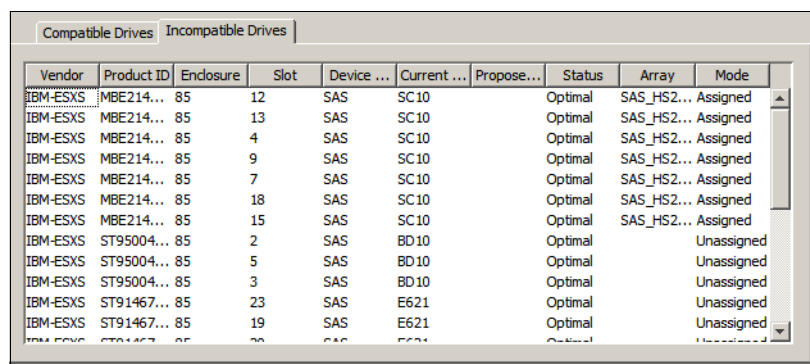

Figure 14-87 Incompatible drives tab
- The drives that are not compatible with the selected updates are shown on the Incompatible Drives tab (Figure 14-87). These are other drive types, and you will have to use other firmware packages.